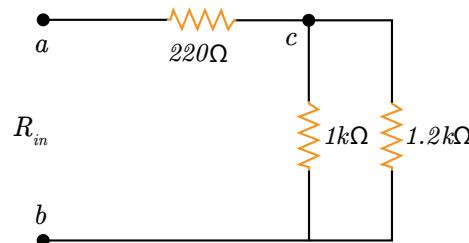

Figure 1.3.1: The resistive circuit of Experiment 1.
9. Calculate the equivalent input resistance between terminals *a* and *b* of Figure 1.3.1.
1. Select the appropriate resistors of Figure 1.3.1 from the resistor containers in the lab. Measure their resistance using the precision LCR bridge at each room and then the digital multimeter (Section A.3). Compare and comment on the results.
2. Calculate the input resistance of the circuit of Figure 1.3.1 using the measured values from above.
3. Build the circuit of Figure 1.3.1 in your boards and measure the input resistance using the digital multimeter. Compare its value with your pre-lab calculations and your previous calculation and comment on the results.
4. Adjust the output voltage of the dc power supply to approximately 5 V (± 0.1 V) and connect it to the resistive circuit of Fig. 1.3.1. Calculate the voltages at points *a* and *c* with respect to point *b* (using the measured resistance values from the LCR bridge) and then measure the voltages using the digital multimeter. Compare the calculated and measured values.
5. Using the measured resistance values from the LCR bridge, calculate the current through each of the three resistors in Fig. 1.3.1.
11. Set the signal generator to a sinusoidal output with a frequency of 1 kHz and at maximum output and connect it to the resistive network of Figure 1.3.1. Measure the following two voltages (Hint: Is the digital multimeter capable of measuring peak-to-peak values? What instrument should you be using for this measurement?):
16. Measure the voltage v_{ac} in Fig. 1.3.1 , using your oscilloscope and the cursors functions.